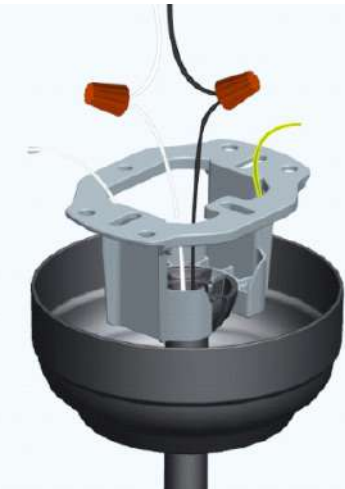

Fig 6.2
6.2 Fasten the safety rope in a safe place. The white wire of the power cord corresponds to the neutral wire of the room, and the black wire corresponds to the live wire. Connect the wiring caps one by one. The yellow and green wires are ground wires and need to be connected accordingly. As shown in Fig 6.2.